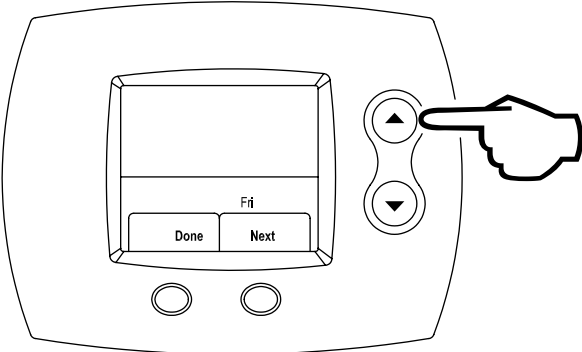

Figure 119
Step 2: Monday is the first day that is shown flashing initially. Using the **UP** (increase day) or **DOWN** (decrease day) buttons, scroll until Friday is shown. This is shown in Figure 119.